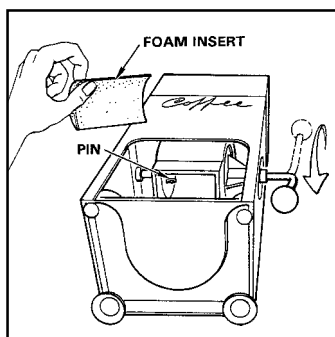

Figure 1. View of MCD-7, looking into drum from beneath.
3. Now turn unit on its back (see Figure 1.).